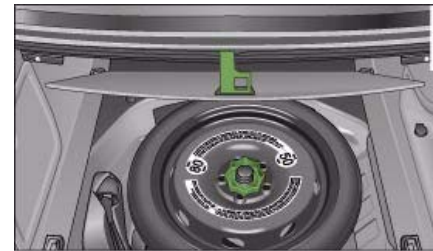

Fig. 226 Spare wheel
- Lift the floor panel by the plastic handle ⇒ fig. 226.
- Turn the centre plastic knob ⇒ fig. 226 anti-clockwise.